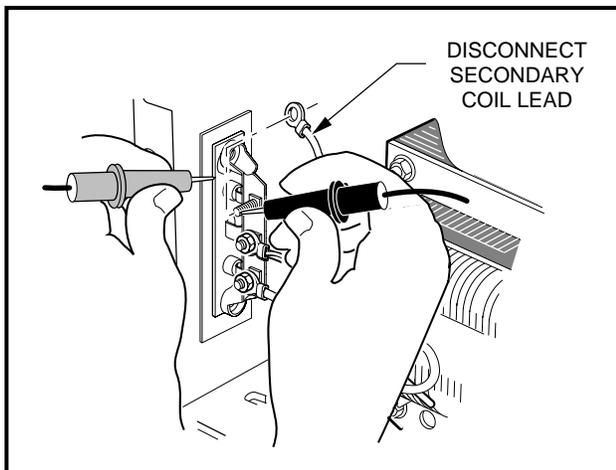

Figure 14-13 Diode Test
2. Disconnect one transformer secondary coil lead from the diode terminal (**Figure 14-13, Page 14-14**).
- Using a low voltage continuity tester or multimeter set to the diode test function, connect the red (+) tester lead to the diode mounting plate and the black (-) tester lead to a diode terminal and note the reading (**Figure 14-13, Page 14-14**).